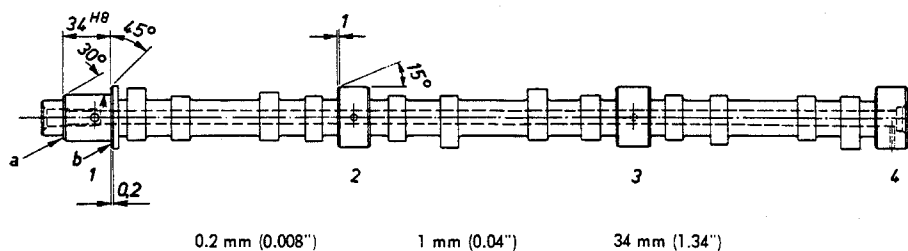

Fig. M 28/00
Before regrounding the camshaft, remove cover plate (2) sealing off the oil passage and pull out oil distributing tube accommodated in the camshaft (see Fig. M 28/01). If one or both centering holes are damaged, which is likely to be the case, regrind them on a center grinding machine or a lathe. Before this is done, check camshaft for concentricity. With shaft supported in end bearings 1 and 4, the max. out of true of center bearings 2 and 3 as well as steering wheel seat must not exceed 0.025 mm (0.001").